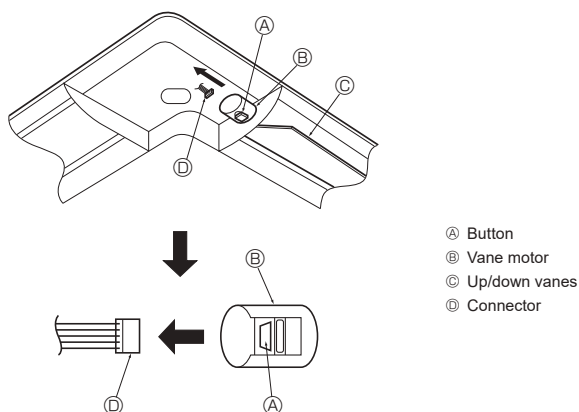

Fig. 10-16
10.5. Locking the up/down airflow direction (Fig. 10-16)